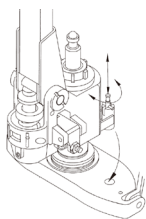

Figure 3
2. Rotate handle to either side and lock pump assembly in position with Arm Detent. Pull detent up and rotate 90° until pin drops into hole located in Base. (See Figure 3).